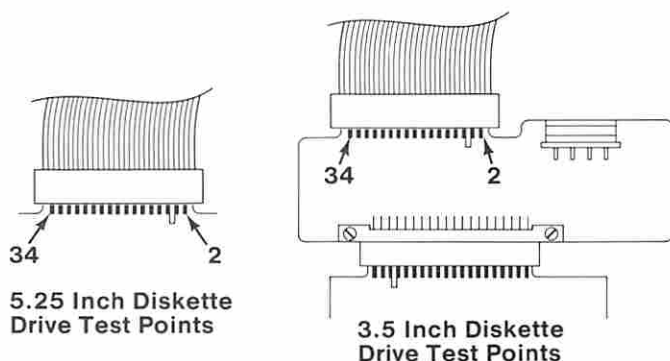

Figure 16. Voltage Check
- Power on the system and monitor the voltage at pin 26 of diskette drive A (Figure 16). The voltage should decrease from approximately 5 Vdc at the start of the POST to approximately 0 Vdc before the beep at the end of the POST.